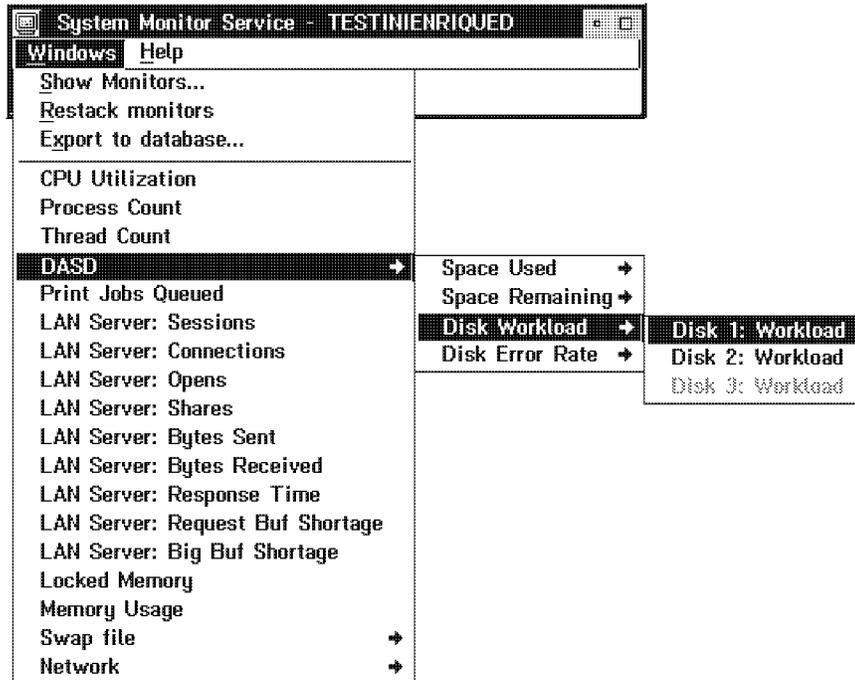

Figure 49. System Monitor Service Windows Drop-Down Menu
The Windows choice of the System Monitor Service window (see Figure 49), allows you to:
1. Select **Export to database...** from the System Monitor Service Windows drop-down menu (see Figure 49 on page 60).